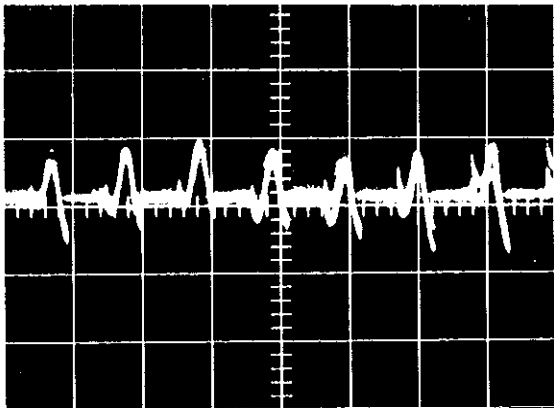

FIGURE 6. Normal Wave Form at Demodulator with Input Shorted. Scale is 0.1 v/cm vertical and 10 msec/cm horizontal.
4. Amplifier saturation. Observe the wave form with an oscilloscope connected to the DEMODULATOR TEST Jack (Figure 3). With the input shorted, it should approximate the wave form shown in Figure 6. If excessive pick-up occurs, the wave form will resemble that of Figure 7. The circuit will operate reasonably well as long as the wave form is not clipped, as shown in Figure 8. At this point a dc offset is introduced.